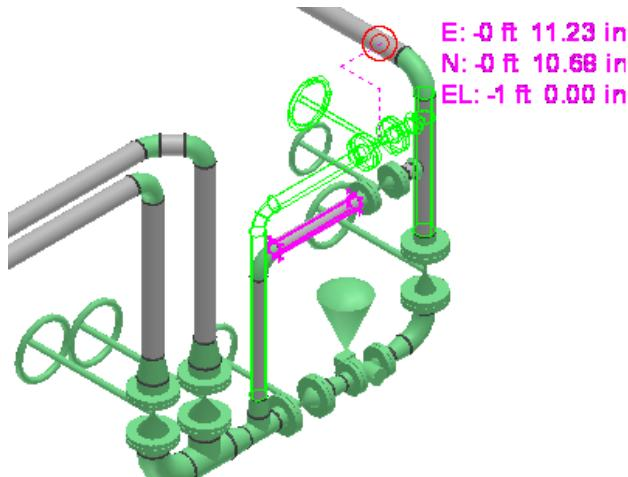

Figure 6: Moved Pipe Feature
50. Key in **-1 ft** for **El** on the **PinPoint** ribbon to move and define the position of the pipe straight feature **1 ft** from the centerline of the pipe **400-P**. Before you accept the placement position, the pipe feature after moving resembles Figure 6.